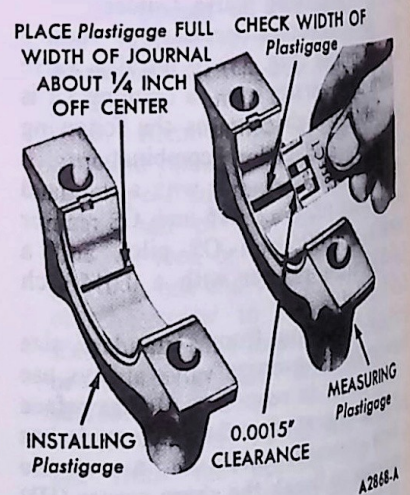

FIG. 27 Installing and Measuring Plastigage—Engine Installed
3. Place a piece of Plastigage on bearing surface across full width of bearing cap and about 1/4-inch off center (Fig. 27).